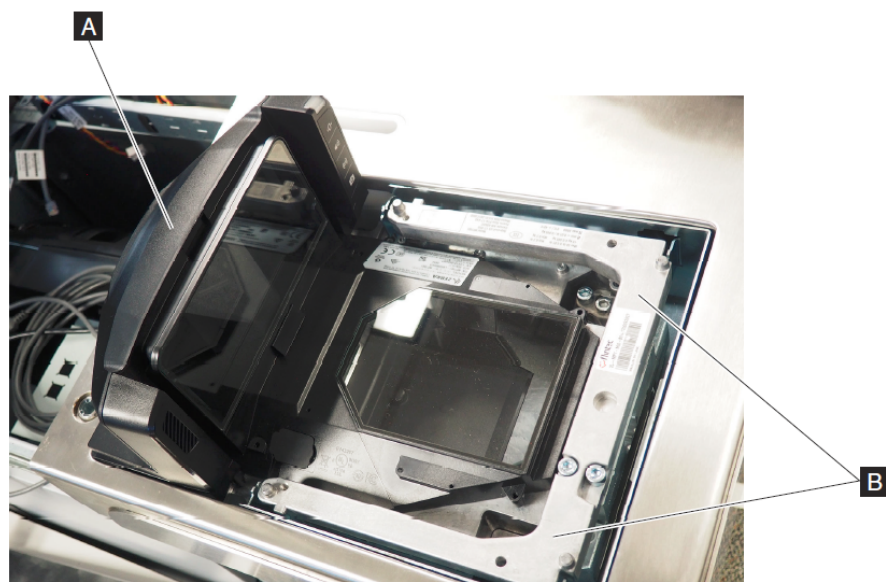

Figure 195. Scanner/scale lift points
- After completing all required connections, using the lift points (see Figure 195), lift the scanner/scale and place it into the scanner/scale cabinet.